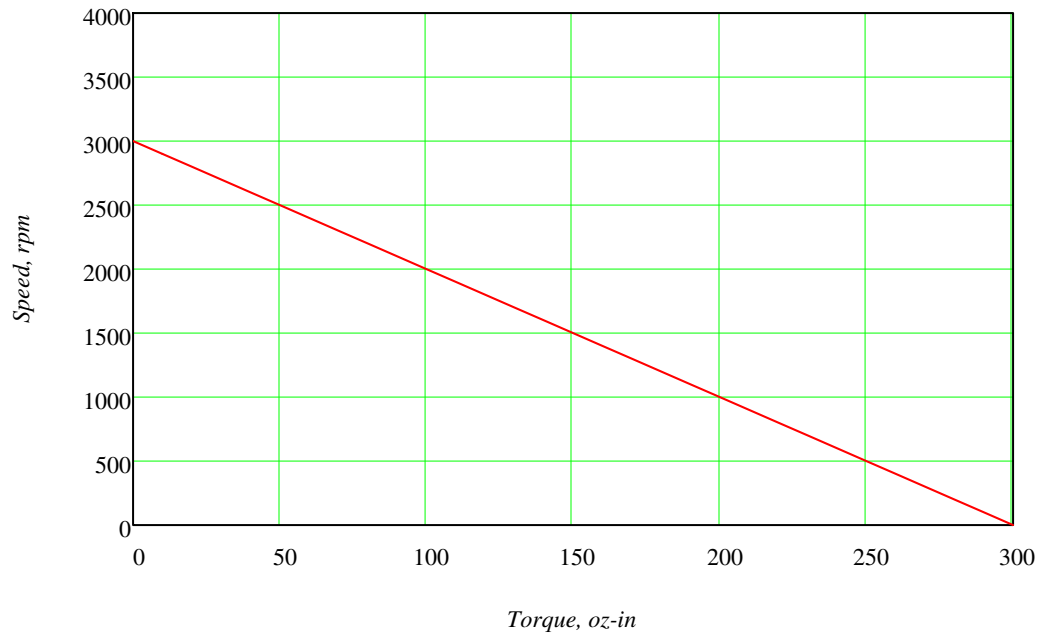

Figure P2-3 Torque-speed Characteristic of a 1/8 HP, 2500 rpm PM DC Motor
Statement: The torque-speed curve for a 1/8 hp permanent magnet (PM) DC motor is shown in Figure P2-3. The rated speed for this fractional horsepower motor is 2500 rpm at a rated voltage of 130V. Determine:
Solution: See Figure P2-3 and Mathcad file P0220.